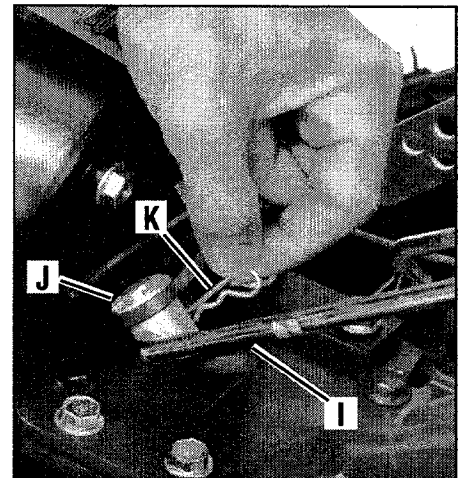

Figure 2-6: Install Maneuvering Clutch Lever.
2. Turn the lever (I, Figure 2-6) so that the small bend at its lower end points inward toward the pivot (J, Figure 2-6) on the left side of the unit.
3. Insert the tip of the lever into the hole in the pivot (J) and secure the lever with a hairpin cotter (K).